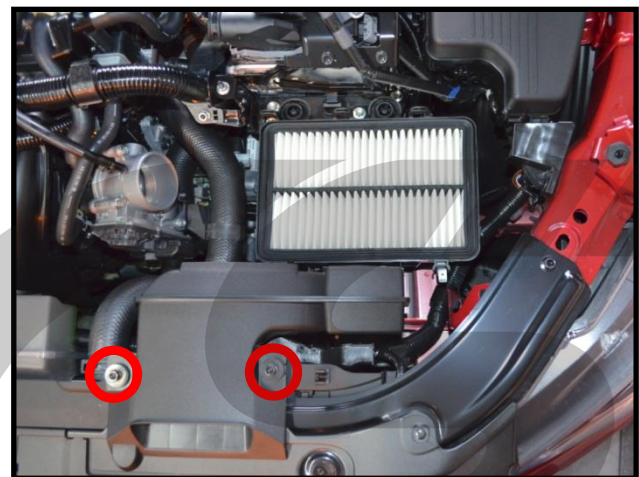

Figure 3g
- g) Remove two (2) 10mm bolts that hold the lower air box (red circles in Figure 3g) and remove it from the car. Simply pull up.